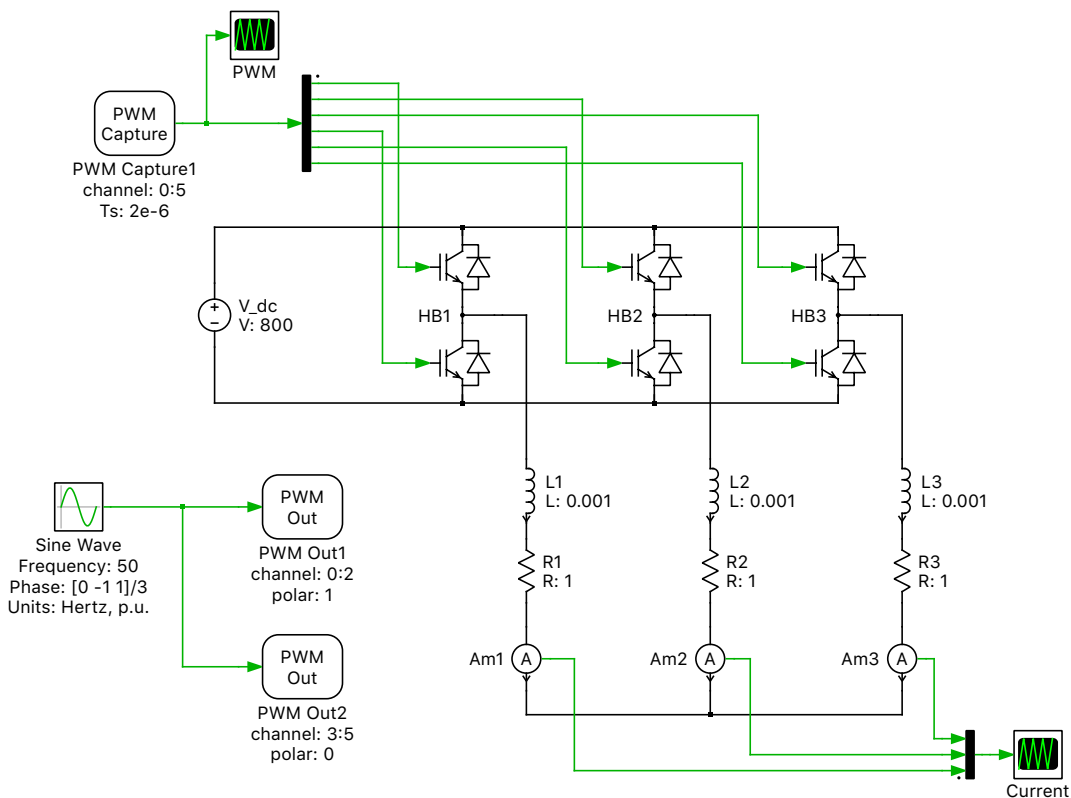

Figure 1: A simple real-time VSI model
- 1 Create a new PLECS model and build the VSI and PWM modulator given in Fig. 1. Use the Half Bridge component from the “Electrical”, “Power Modules” section of the PLECS component library. Use a PWM Capture block from the PLECS RT Box library and connect it to the IGBT gate inputs as shown in the figure. Also note the difference in the **Polarity** setting for the two PWM Out components.
Use the default component parameters unless noted differently in Fig. 1.
- 1 Replace the half bridge power modules in Fig. 1 with discrete IGBT with Diode components that you can find in the Electrical + Power Semiconductors section of the PLECS library. Use a Digital In block from the PLECS RT Box library and connect it to the switch gate signals as shown in the figure. Keep the rest of the model the same as in Fig. 1.